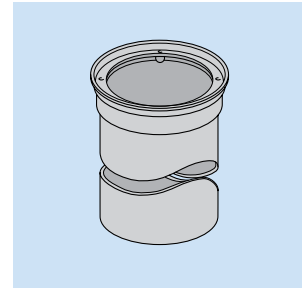

Fig. 19
**To connect 110mm pipe to back inlet socket:** remove polypropylene plug and solvent-weld pipe or spigot of fitting. The gully may be extended by using the 4DG96 Raising Piece (Fig. 19). The grating and frame should be removed from the gully and the raising piece inserted. The grating should then be fixed to the top of the raising piece. The original gully frame unit should be discarded.